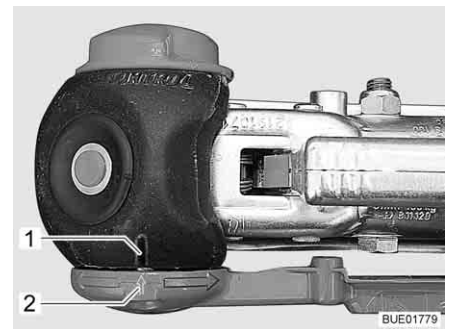

Fig. 5 Check "AKS closed"
- Push the stabilising lever down until the marking on the stabilising lever (Fig. 5,2) is aligned with that on the stabilising housing (Fig. 5,1).